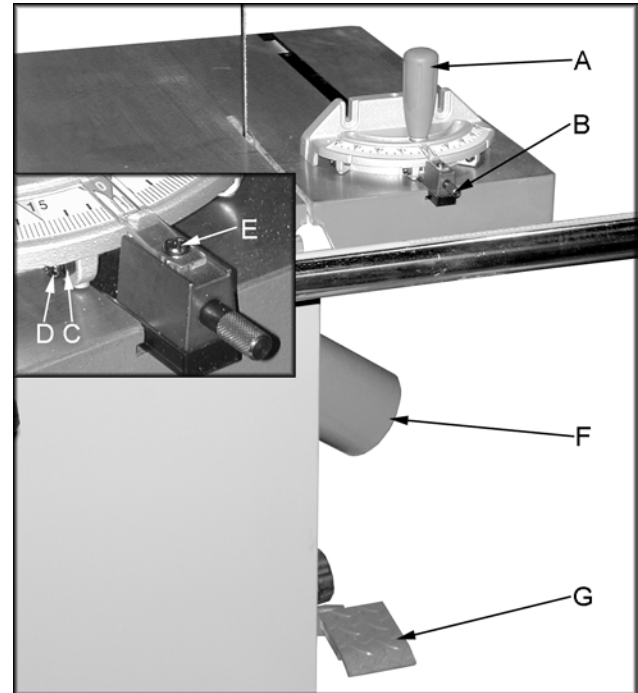

Figure 12
1. Slide the miter gauge bar into the miter gauge slot in table. Loosen the handle (A, Figure 12) and pull out indexing rod (B, Figure 12) to pivot the miter gauge body.
3. Adjust stops by loosening the hex nut (C, Figure 12) and adjusting screw (D, Figure 12).
4. Align the cursor by loosening screw (E, Figure 12).
There is a 4" dust port (F, Figure 12) located on the side of cabinet. Make sure dust collection system has sufficient capacity and suction for your bandsaw. Always turn on dust collection system before starting the bandsaw.
Press the brake pedal (G, Figure 12) while the saw is running to stop the saw. Re-start the saw by pressing the on switch.